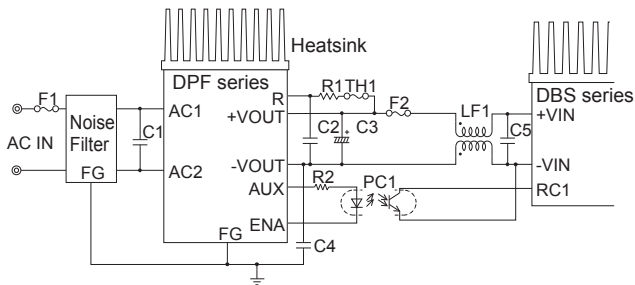

Fig.1.1 Standard connection method
■To use DPF1000, connection shown in Fig.1.1 and outside attached components are required. Through this connection, DC output voltage can be obtained from AC input voltage.
- For connecting the DBS/DHS series, see Fig.1.1.